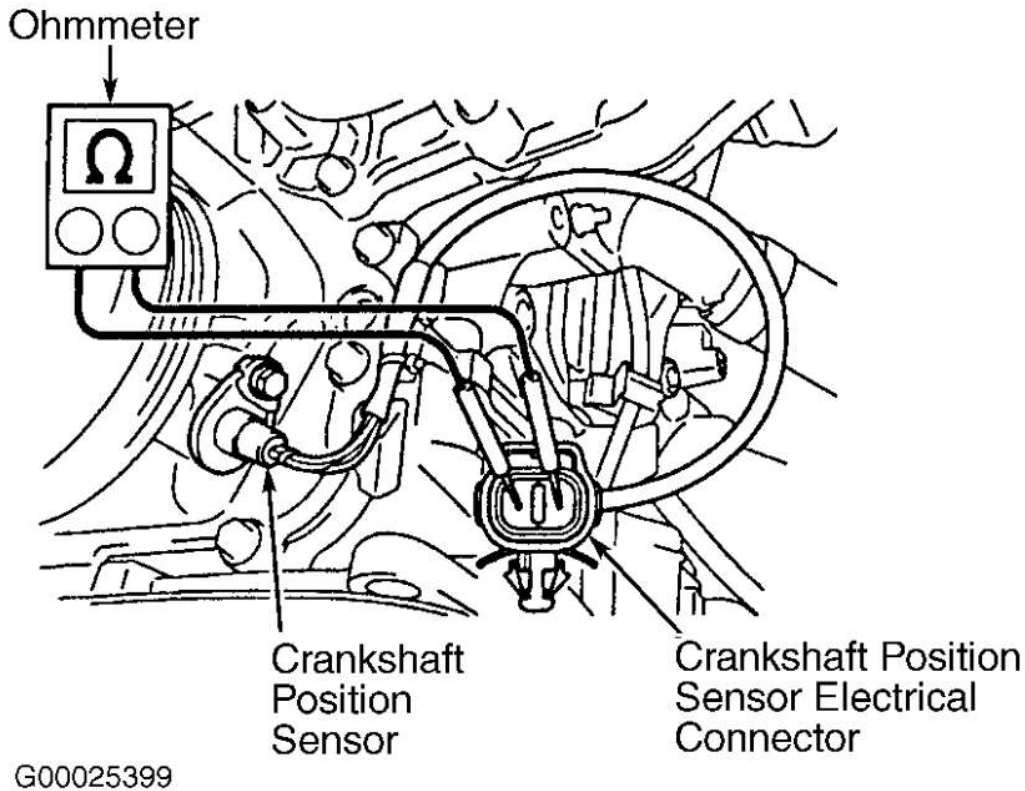

Fig. 49: Locating & Checking Crankshaft Position Sensor (MR2)
1. Remove lower front engine cover. Remove A/C compressor for access to crankshaft position sensor. It may be necessary to discharge A/C system for removal of A/C compressor. Crankshaft position sensor is located on front of timing chain cover, near crankshaft pulley. See **Fig. 49** .